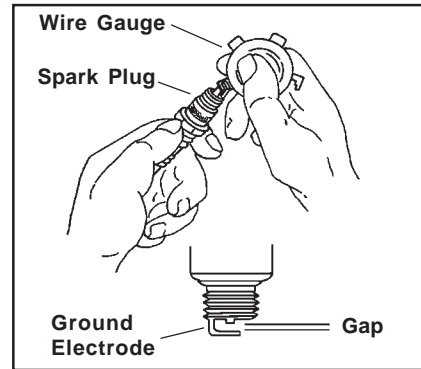

Figure 9. Checking Spark Plug Gap.
**Every 200 hours** of operation, remove spark plug and check its condition. Replace if needed, or, if good, reset gap with a wire type feeler gauge. Bend ground electrode to gap specified. See Figure 9. The gap for single cylinder engines (except CS4-12 and CV16) is 1 mm (.040"). The gap for CS4-12, CV16, SV470-610, and all twin-cylinder engines is .75 mm (.030"). Torque the spark plugs to **20 N-m (14 ft. lbs.)** on CS4-12 engines; to **28 N-m (20 ft. lbs.)** on SV470-610 and all twin-cylinder engines; and to **40 N-m (30 ft. lbs.)** on CH/CV11-16, CV460-493 engines.